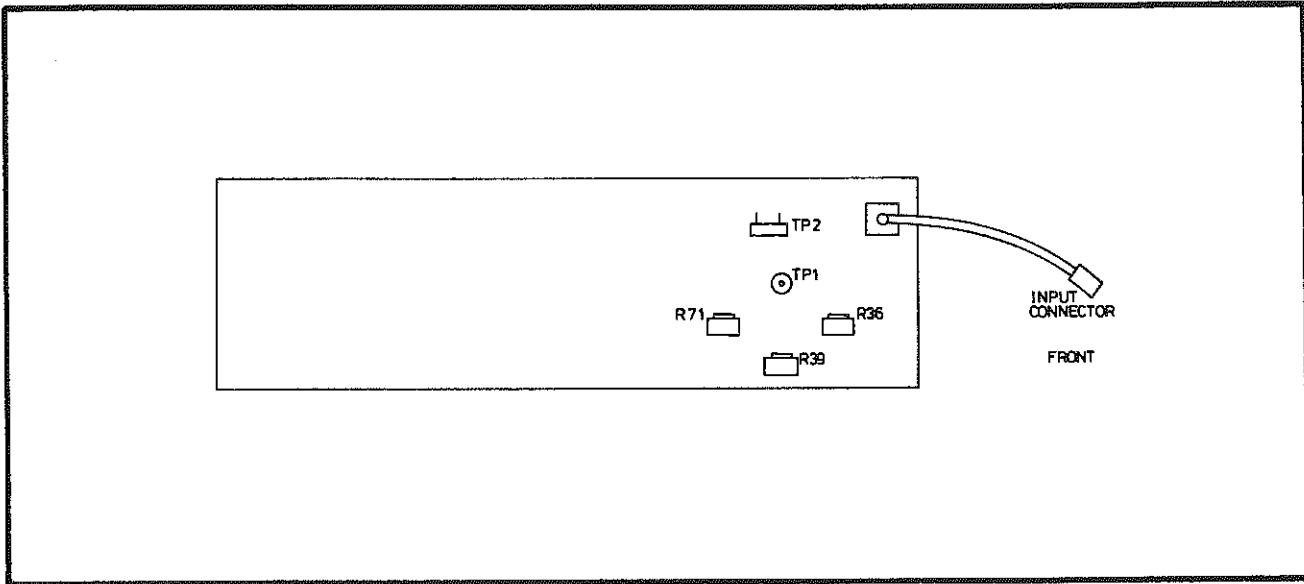

Fig 7.14 Assembly 19-1300: Location of Potentiometers
- (1) Rotate R39 on assembly 19-1300 (see Fig 7.14) fully anticlockwise.
- (2) Adjust the signal generator output until the millivoltmeter indicates $0 \text{ dBm} \pm 0.2 \text{ dBm}$.
- (3) Rotate R39 on assembly 19-1300 clockwise until the millivoltmeter indicates $-3 \text{ dBm} \pm 0.5 \text{ dBm}$.
- 44 (1) Rotate R36 on assembly 19-1300 (see Fig 7.14) fully anticlockwise.
(2) Switch on the 1999 and the power supply.
- 46 (1) Rotate R36 on assembly 19-1300 until the OVERLOAD indicator on the front panel just lights.
- 49 (1) Rotate R71 on assembly 19-1300 (see Fig 7.14) fully anticlockwise.
- (2) Switch on the 1999 and select FREQ B. Verify that the EXT STD indicator is lit.
- (3) Set the signal generator output to 80 MHz. Adjust the output level until the power meter indicates $-30.2 \text{ dBm} \pm 0.2 \text{ dBm}$.
- (4) Adjust R71 clockwise until the 1999 front panel GATE indicator just commences to flash. Verify that the display indicates $80.000000 \text{ MHz} \pm 0.000001 \text{ MHz}$.
- (5) Reduce the signal generator output to $-30.8 \text{ dBm} \pm 0.2 \text{ dBm}$.
- (6) Verify that the 1999 is not counting.
- (7) If the 1999 is counting repeat steps (3) to (6).
- (8) Switch off the 1999 and test equipment. Disconnect the test equipment.